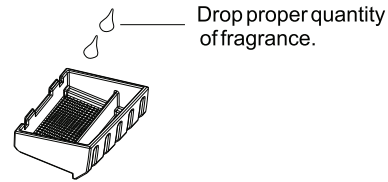

fig. 2
- 8) If users need to use fragrance function, please take out the fragrance box, open the box cover, drop some fragrance into the fragrance sponge, close the box cover and then reinstall the fragrance box (shown as fig. 2).